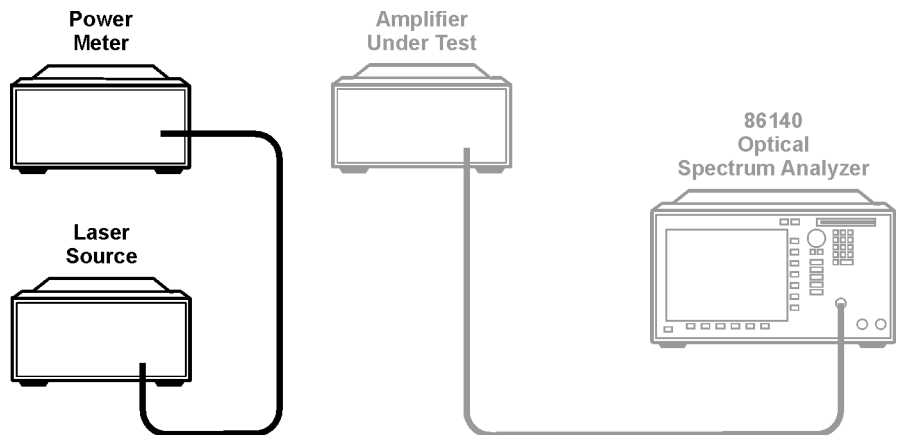

Figure 1-4. Power Meter Measurement
- 5 Connect the source to the power meter as in Figure 1-4. Set the power meter wavelength parameter to the source mean wavelength value.